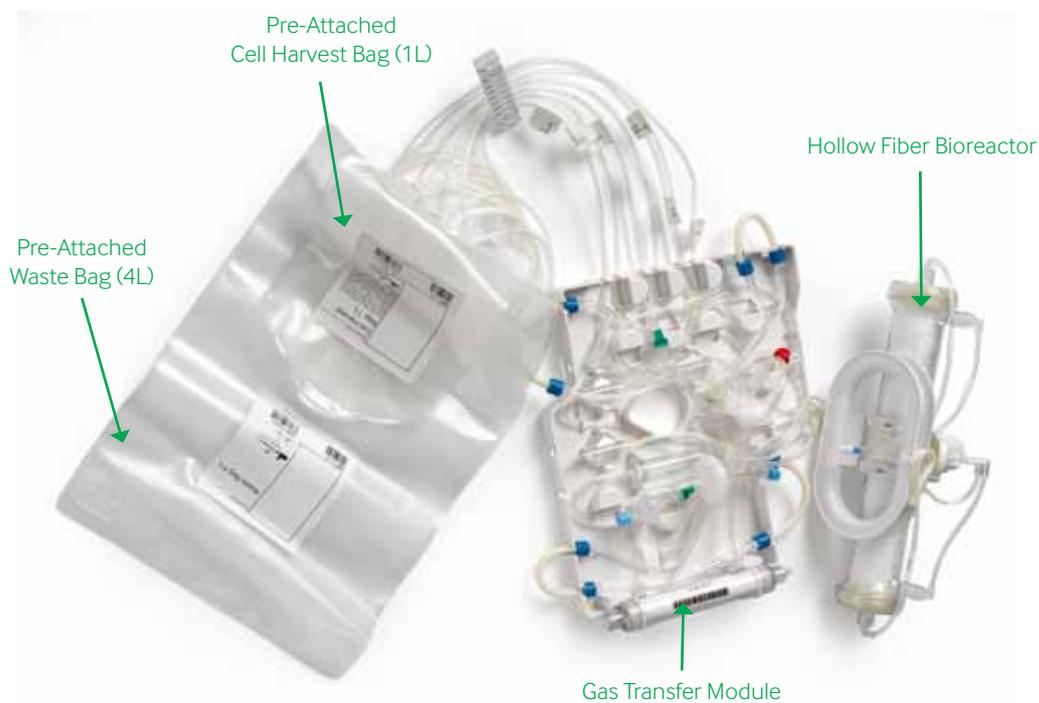

Figure 2. The Quantum system disposable set.
The Quantum system is a functionally closed, automated hollow fiber bioreactor system designed to grow both adherent and suspension cells (Figure 1). The bioreactor culture system is comprised of a synthetic hollow fiber bioreactor that is part of a sterile closed-loop circuit for media and gas exchange (Figures 1 and 2). The bioreactor and fluid circuit are a single-use disposable set that is mounted onto the Quantum system unit. The bioreactor itself is comprised of ~11,500 hollow fibers with a total intracapillary (IC) surface area of 2.1 m². Typical culture manipulations (e.g., cell seeding, media exchanges, trypsinization, cell harvest, etc.) are managed by the computer-controlled system using pumps and automated valves, which direct fluid through the disposable set and exchanges gas with the media. The functionally closed nature of the disposable set is maintained through the sterile docking of bags used for all fluids; these bag connections/disconnections all utilize sterile connection technology. Gas control in the system is managed using a hollow fiber oxygenator (gas transfer module, Figure 2). Gas is supplied from a user-provided premixed gas tank. By choosing a tank with the desired gas mixture, the user can expand cells at their optimal gas concentration. The IC membrane of the bioreactor is coated with an adhesion promoter to allow the attachment of adherent cell populations.